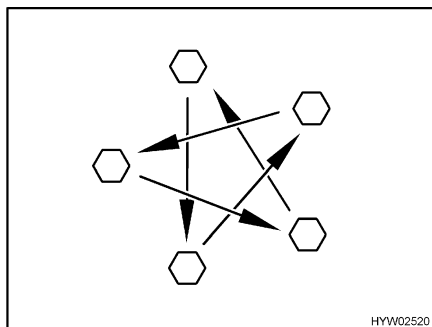

Fig. 87 Tighten the wheel nuts or wheel bolts cross-wise
- Check regularly that the wheel nuts or wheel bolts are firmly seated. Re-tighten the wheel nuts or wheel bolts of a changed wheel cross-wise (Fig. 87) after 50 km (30 miles).